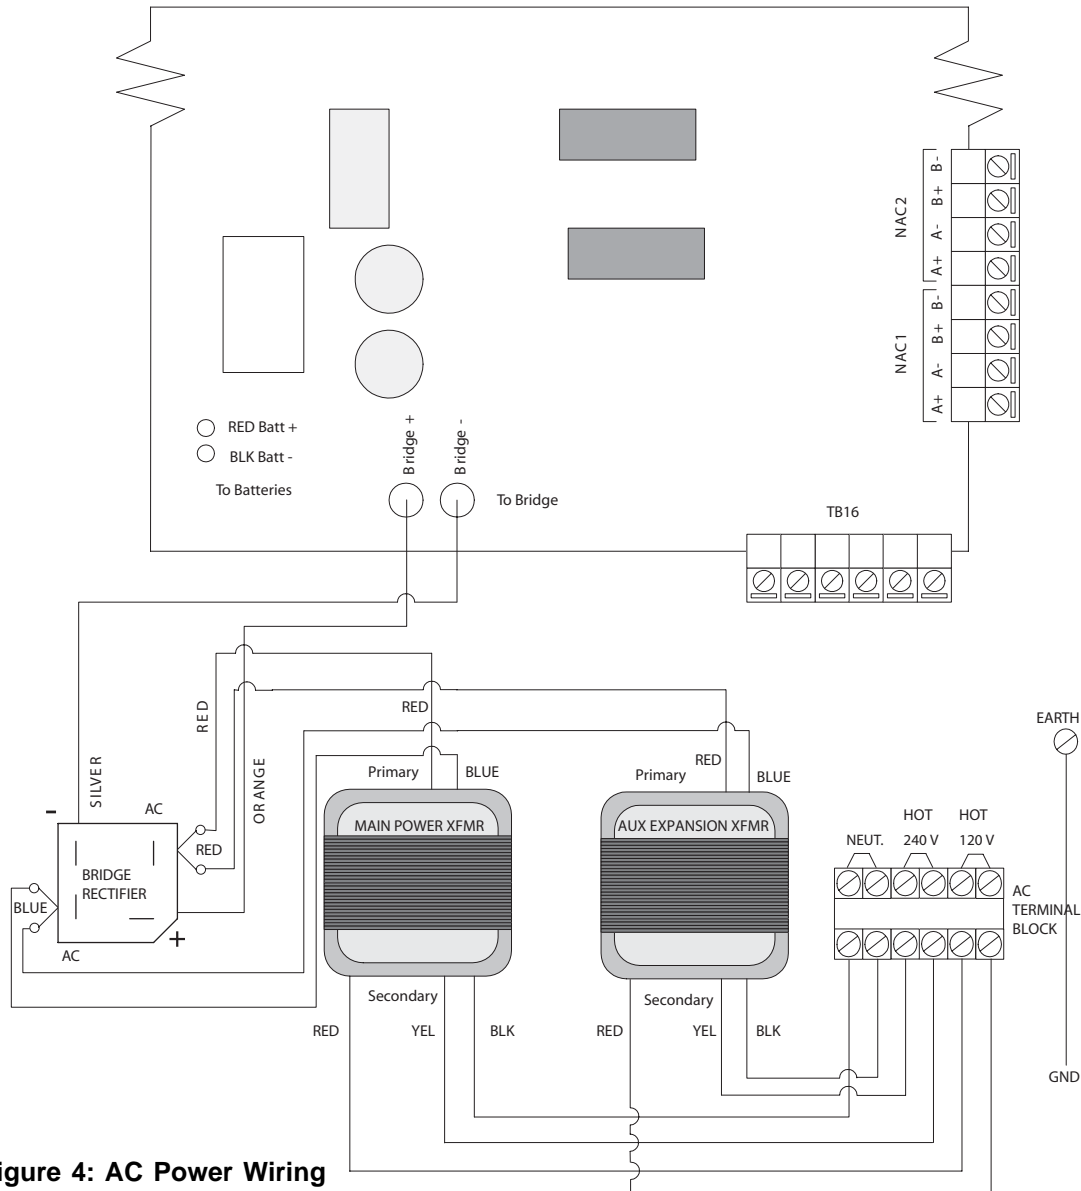

Figure 4: AC Power Wiring
- Attach AC wiring to the AC Terminal Block (see Figure 4 on page 16). Attach green ground wire to ground screw on backplate.